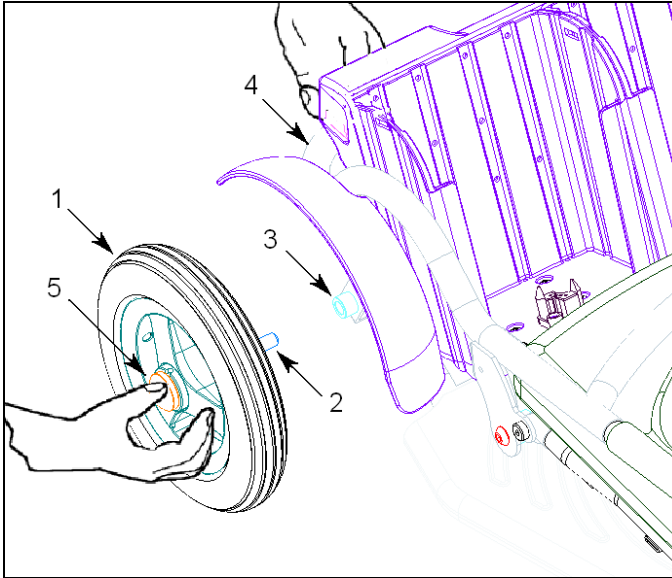

Figure 2
(See **figure 2**) The rear wheel (1) is assembled by means of a so called quick release axle (2) into the wheel mount (3) of the frame (4). In order to be able to assemble and disassemble the quick release axle you need to press the button underneath the rubber cover (5) in the centre of the wheel.
Take the rear wheel in your hand as shown in **figure 2**. Grip the wheel (1) with your fingers through the spokes and depress the button under the rubber cover (5) at the centre of the wheel with your thumb.